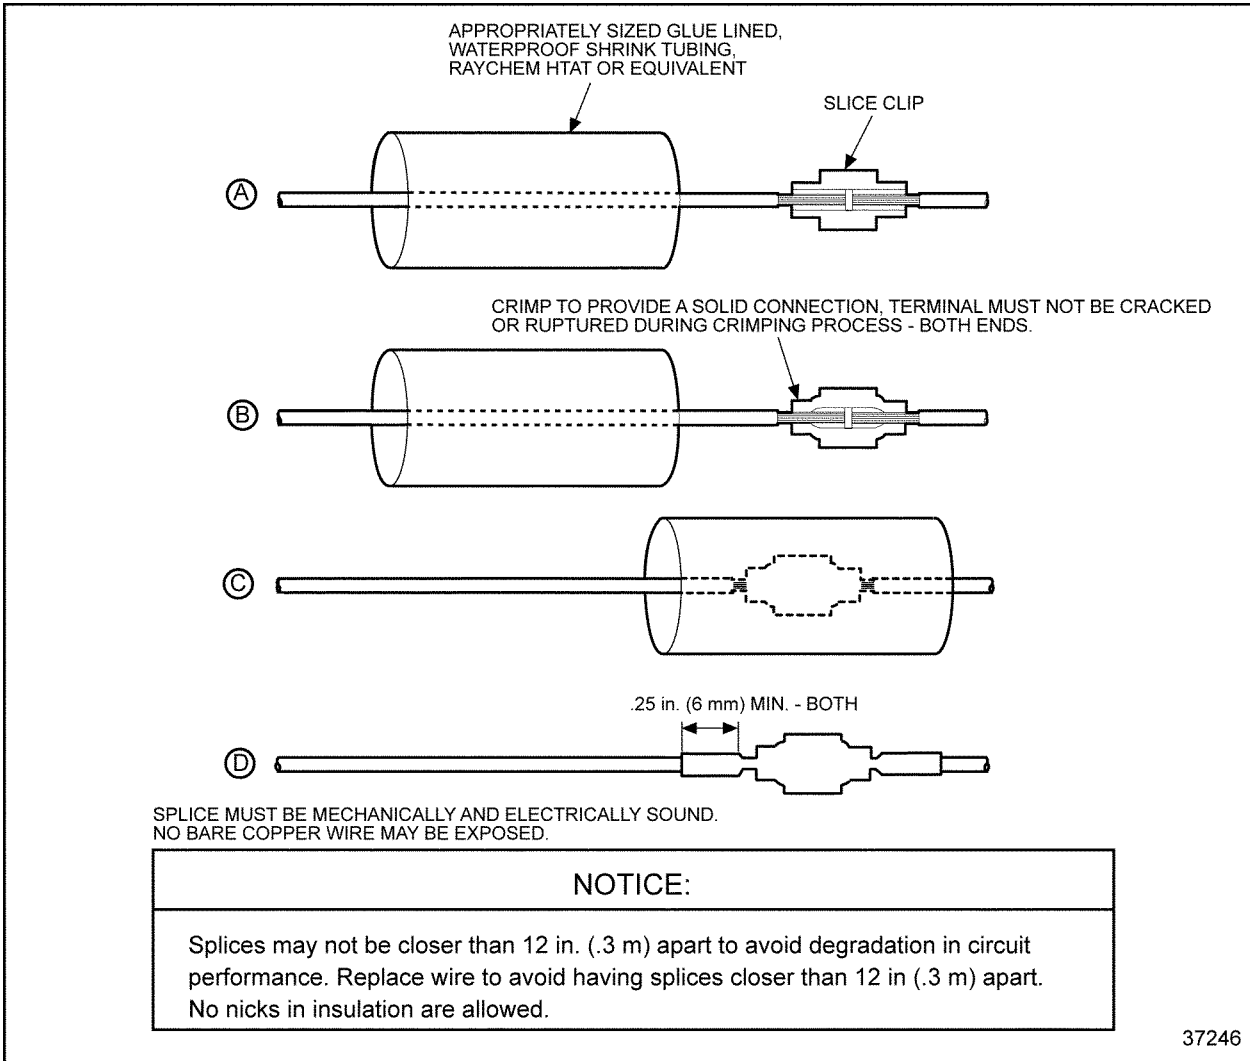

Figure 17-18 Splicing Straight Leads - Alternate Method 2
3. Slide a sleeve of glue lined, shrink tubing (Raychem HTAT or equivalent) long enough to cover the splice clip on the wire and overlap the wire insulation, about .25 in. (6 mm) on both sides (see Figure 17-18, A).
4. Insert one wire into splice clip until it butts against the splice clip. Stop and crimp (see Figure 17-18, B).
5. Insert the remaining wires into the splice clip one at a time until each butts against the splice clip; stop and crimp (see Figure 17-18, B).
7. Slide the shrink tubing over the crimped splice clip (see Figure 17-18, C).
8. Shrink tubing with a heat gun to seal the splice (see Figure 17-18, D).